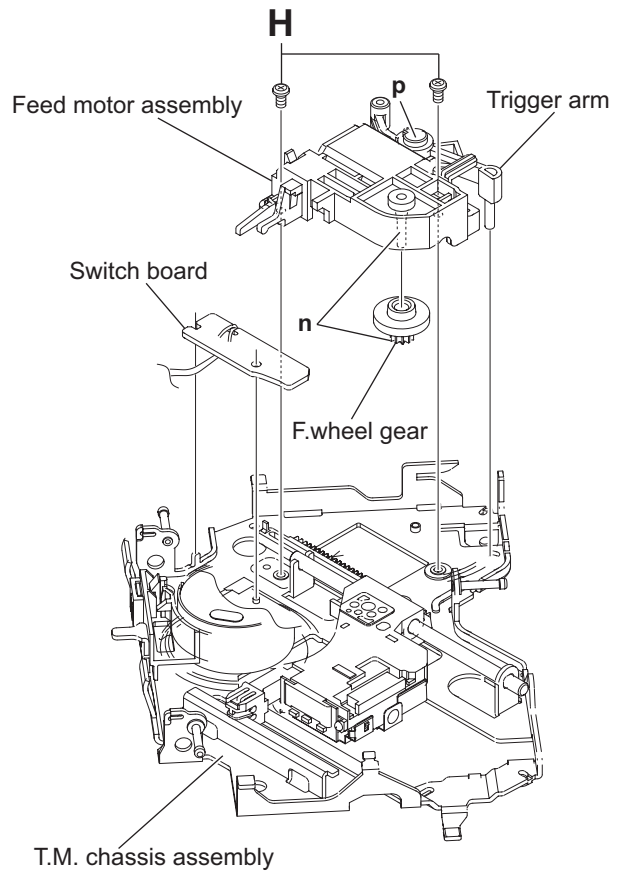

Fig.18
3.2.10 Removing the feed motor (See Fig.18 and 19)
- From the bottom side of the T.M chassis assembly, remove the two screws **H** attaching the feed motor assembly. (See Fig.18.)
When attaching the f. wheel gear, trigger arm and feed motor, apply grease to the sections (**n**, **p** and **q**). (See Fig.18 and 19.)
3.2.11 Removing the SWITCH BOARD assembly (See Fig.18)